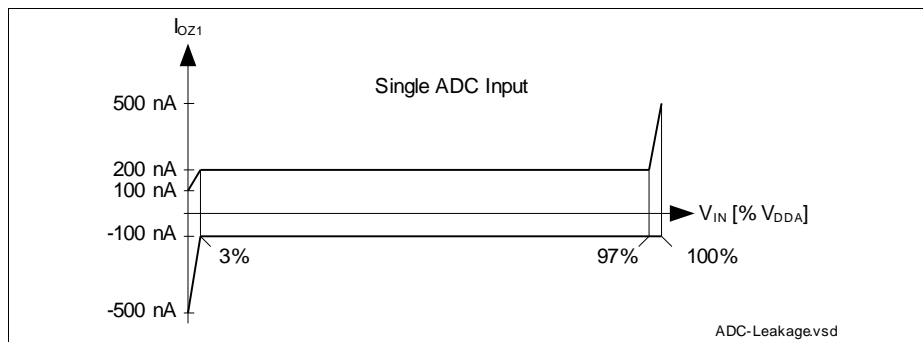

Figure 16 VADC Analog Input Leakage Current
- 3) The leakage current definition is a continuous function, as shown in figure ADCx Analog Inputs Leakage. The numerical values defined determine the characteristic points of the given continuous linear approximation - they do not define step function (see Figure 16).